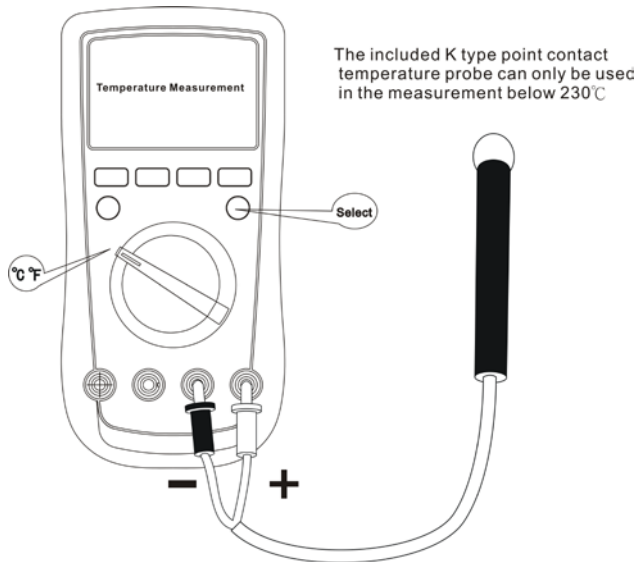

Figure 12
### I. Temperature Measurement (UT109only)(See figure 12)
2. Insert the temperature probe into the input terminal as shown on the figure 12.